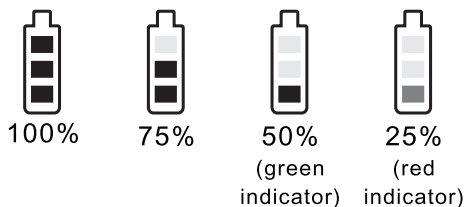

Fig. 4
- (B) Power on: Press the power button and battery and AF indicators are lit.
- (C) Power off: Press the power button for two seconds and battery indicators are off.
- (D) Battery level indicators. Recommend charging or replace a fully-charged battery when single red indicator remains. Power shutdown automatically when battery voltage is too low, Fig. 4.